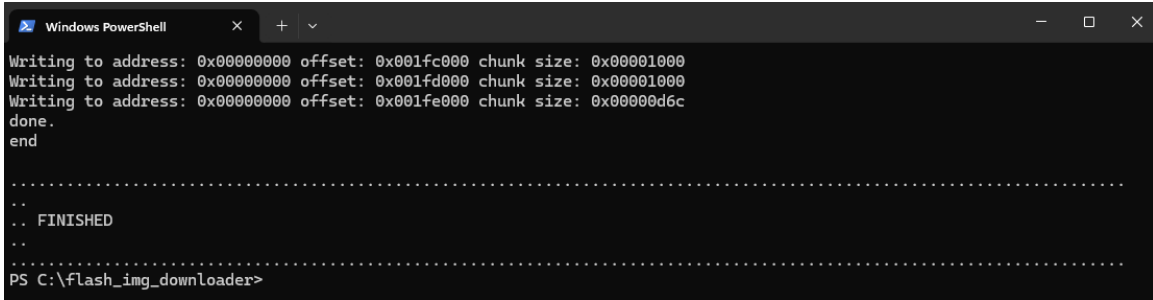

Figure 22. Finished Programming Firmware Image
- a. After the script finishes programming the procedure, there are similar message as in Figure 22.